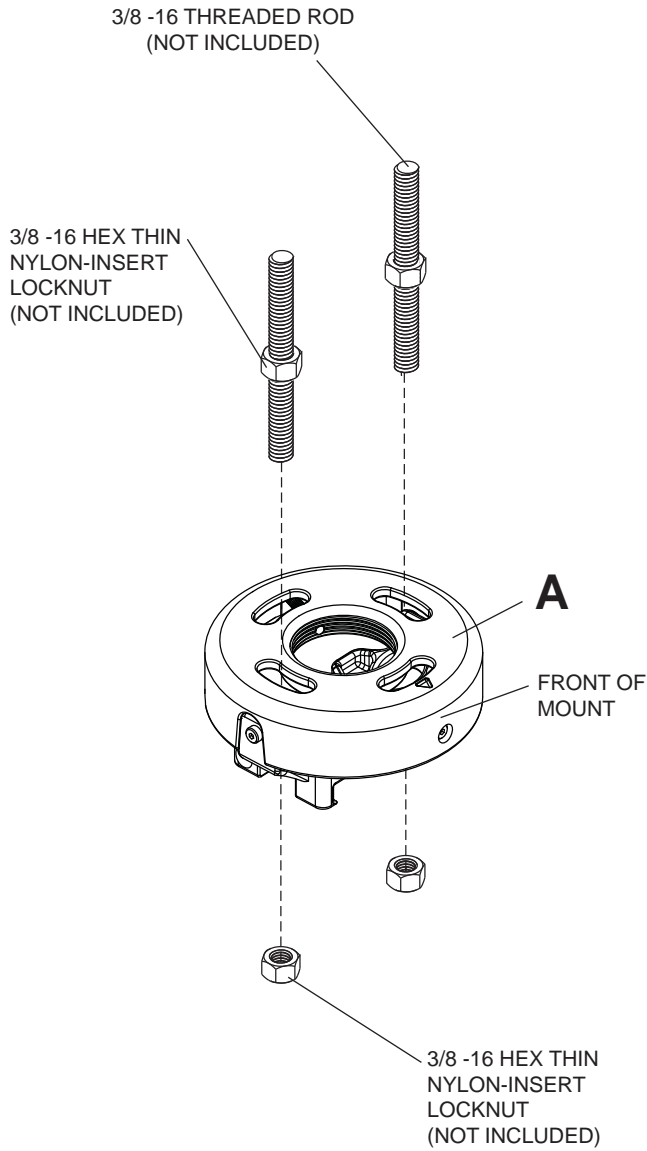
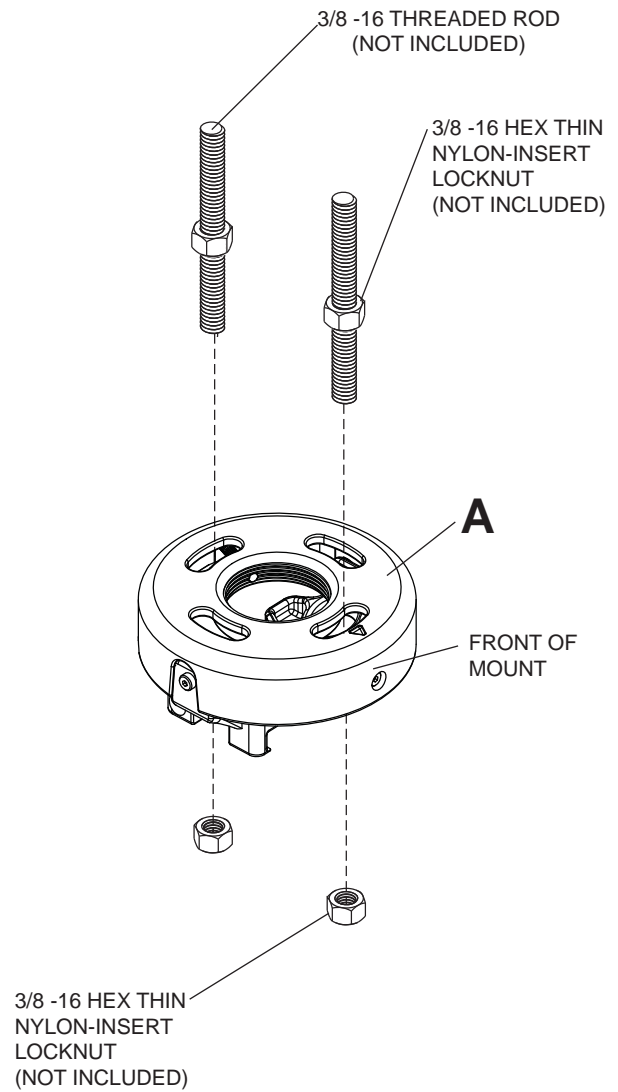

fig. 4.1
fig. 4.2
- 4 Thread two 3/8-16 hex thin nylon-insert locknuts (not included) on two 3/8-16 threaded rods (not included) to the desired height of projector mount assembly. Attach projector mount assembly (A) to the two 3/8-16 threaded rods using two 3/8-16 hex thin nylon-insert locknuts as shown in **figure 4.1** or **figure 4.2**.